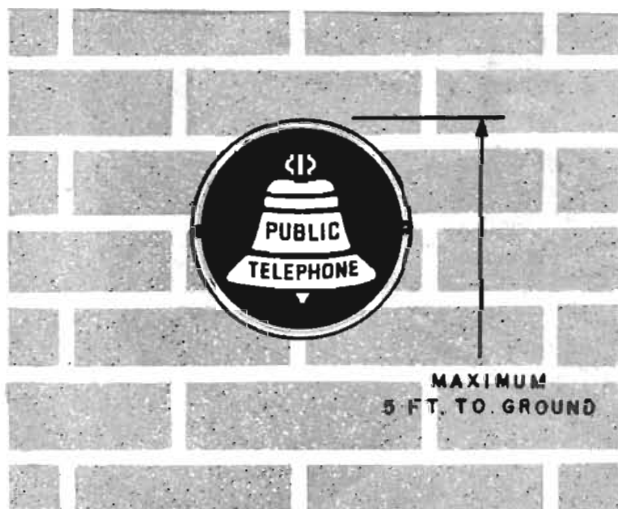
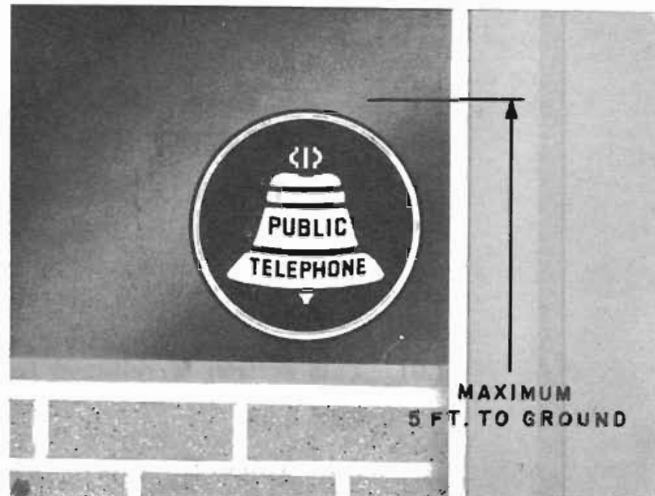

Fig. 2 — KS-19027, List 1 Sign Mounted with Screws
Fig. 3 — KS-19027, Lists 2 and 3 Signs Mounted with Cement and Adhesive, Respectively
**3.01** KS-19027, Lists 1 and 2 signs may be mounted on flat surfaces with screws (Fig. 2) or with cement (Fig. 3).
**3.02** KS-19027, List 3 sign is aluminum with a pressure-sensitive adhesive on back for mounting. Adhesive is protected by a removable cellophane backing (Fig. 3). To mount pressure-sensitive adhesive aluminum sign: